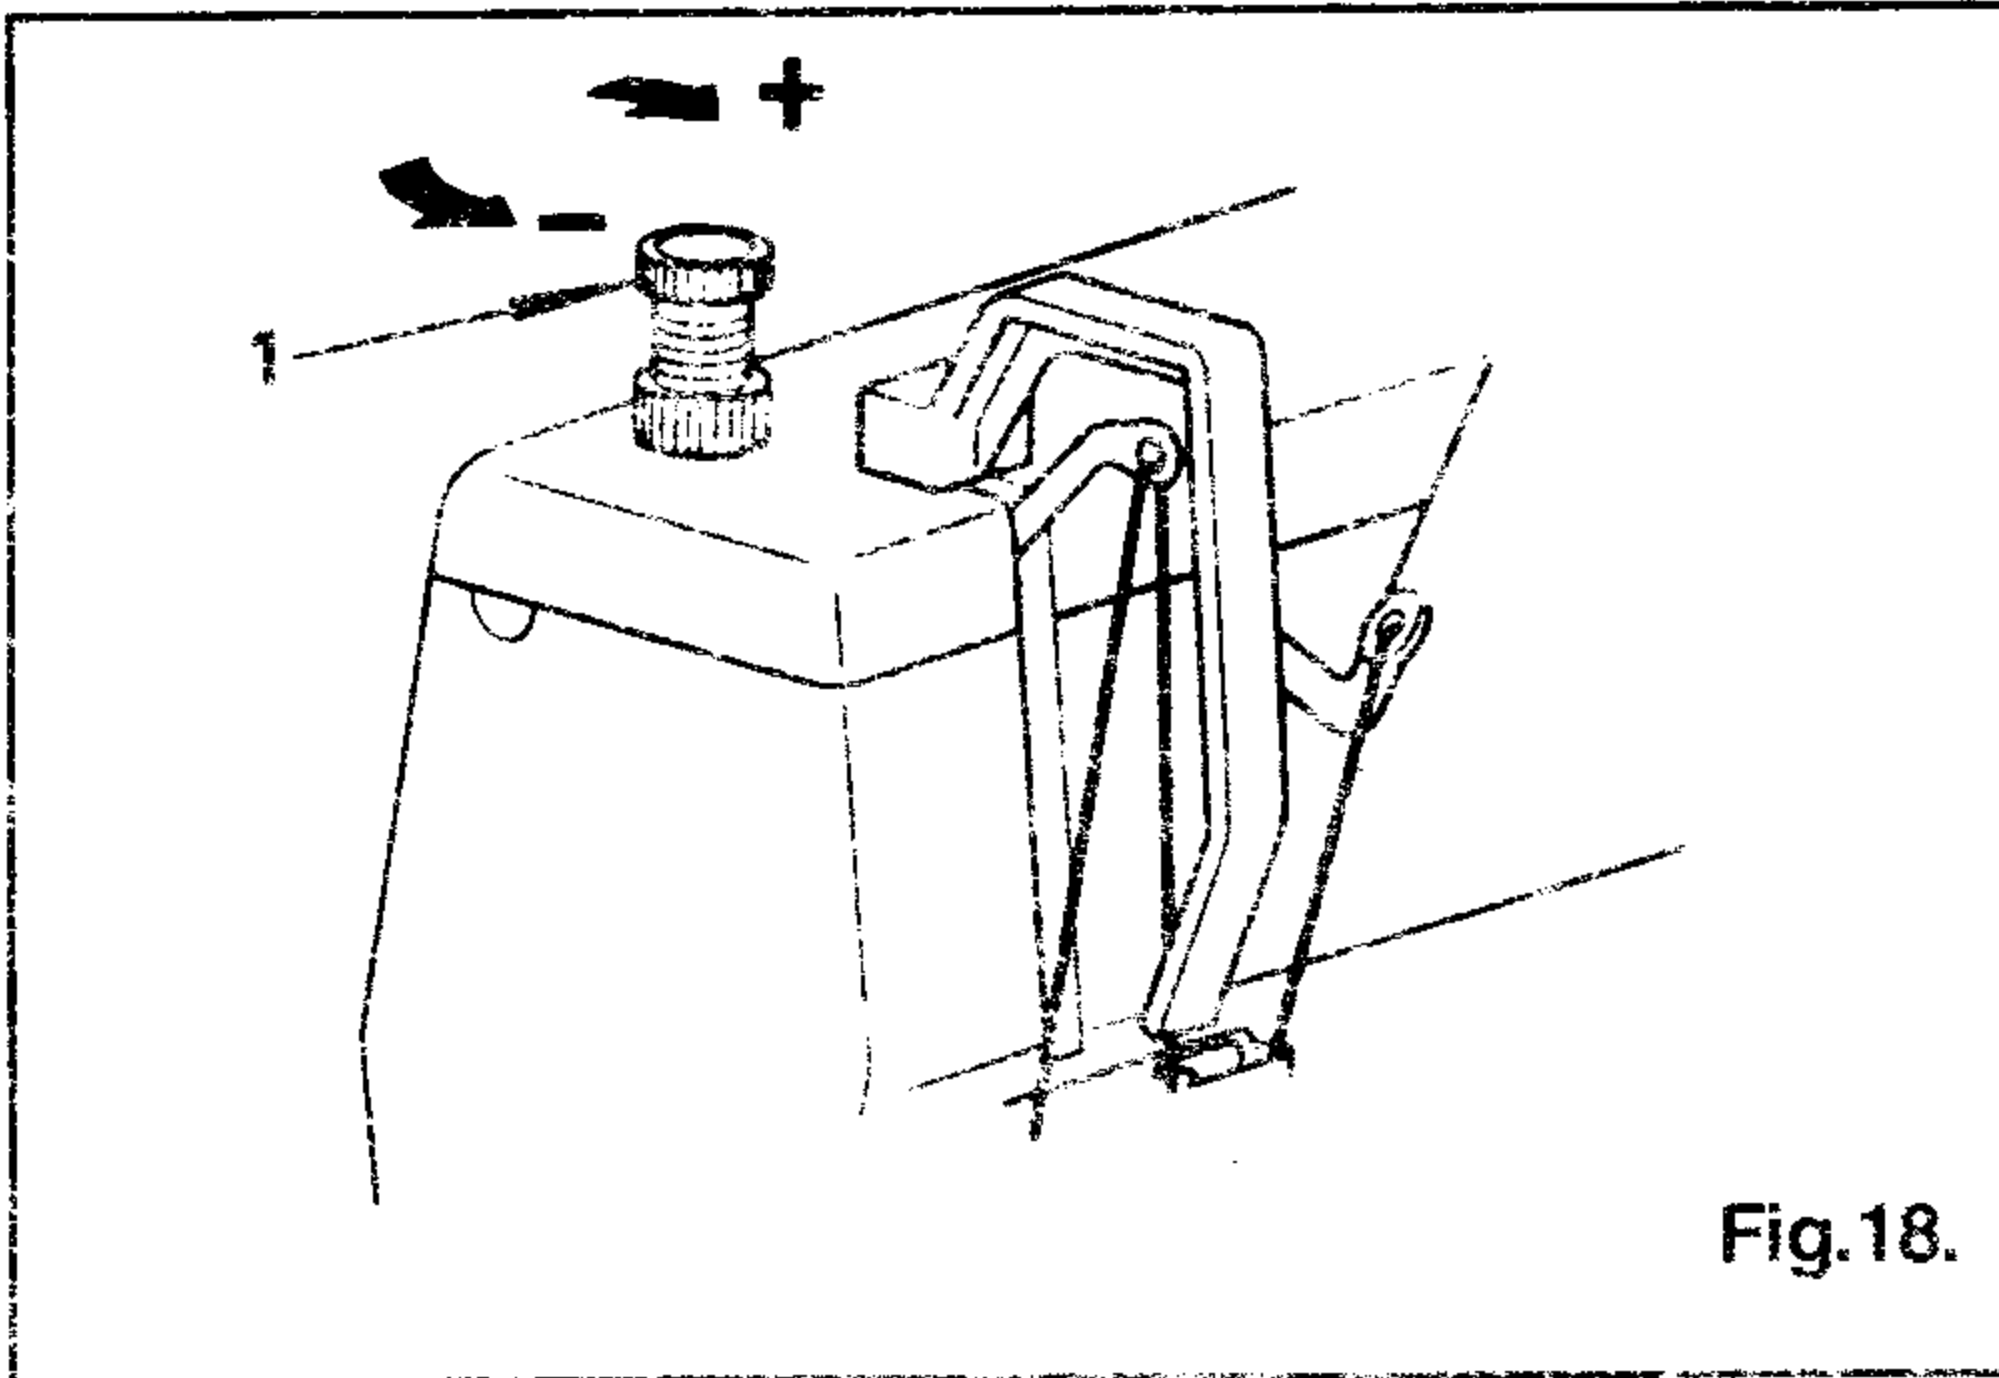

Fig.18.
To regulate the presser foot pressure, turn knurled thumb screw (1), Fig. 18 toward left or right as required.